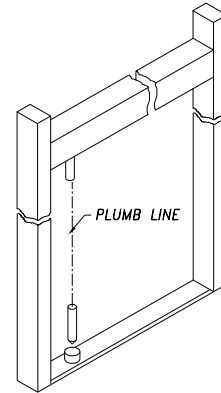

FIGURE 7: Pivot Alignment
2. Find the exact location for each lower pivot by dropping a plumb line from the center of each operator spindle to the center of each pivot (Figure 7).